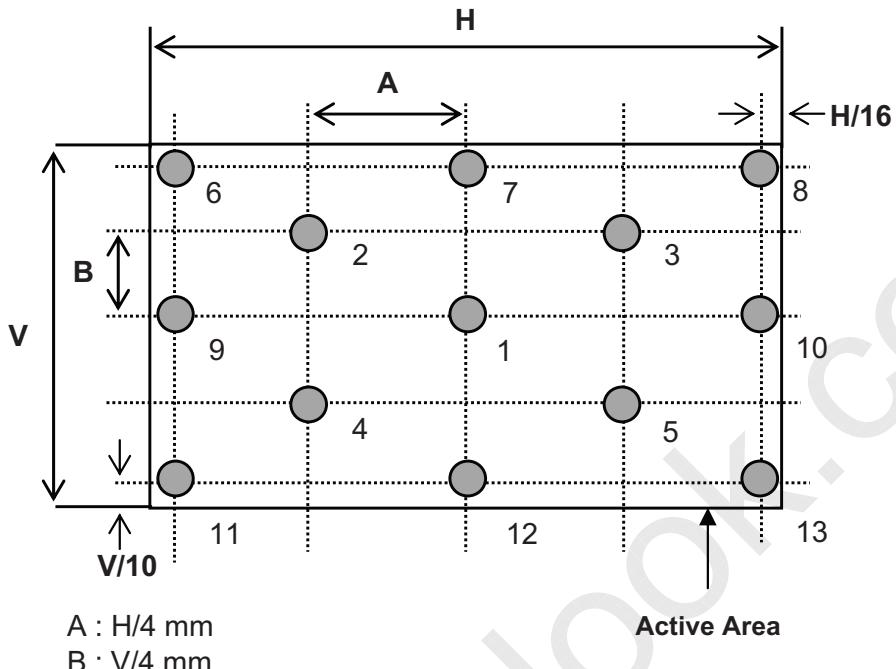

FIG. 2 Measure Point for Luminance
2. Surface luminance(L_{WH})is luminance value at 5 points average across the LCD surface 50cm from the surface with all pixels displaying white. For more information see FIG 2.
For more information see FIG 2.